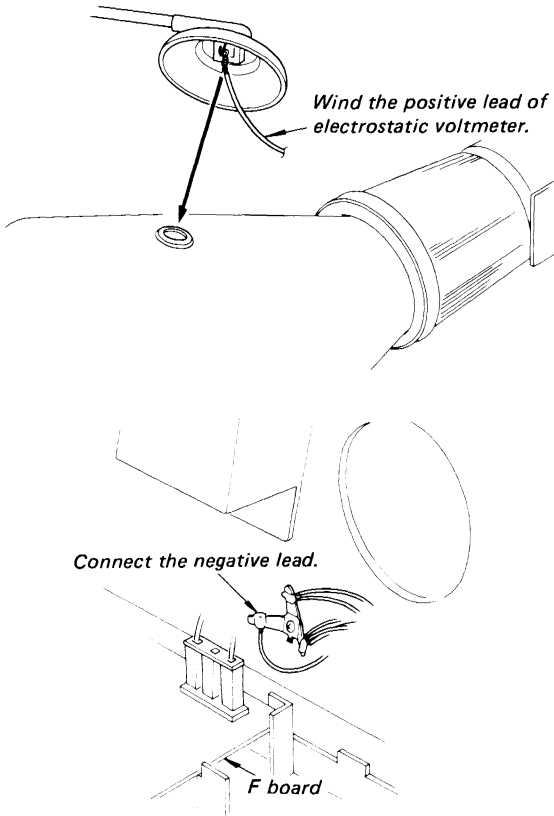

Fig. 4-1
- (1) Confirm that the POWER switch is OFF position.
- (2) Connect the positive lead of the electrostatic voltmeter to the anode of the picture tube and the negative lead to the ground lug on the chassis as shown in Fig. 4-1.